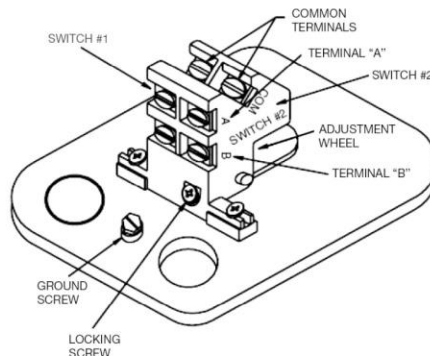

FIGURE 1
3.3.2 Back out the locking screw (see Figure 1) to allow main adjustment wheel to turn freely.
- Adjust main adjustment wheel (see Figure 1) to desired setting for pump to turn ON.